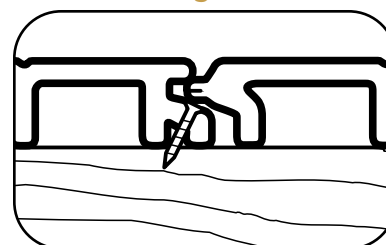

Fig. 4
- Using hand pressure only, slip planks into place. There will be a gap of up to 1/4" between planks. **Do not force planks together** (Fig. 4).